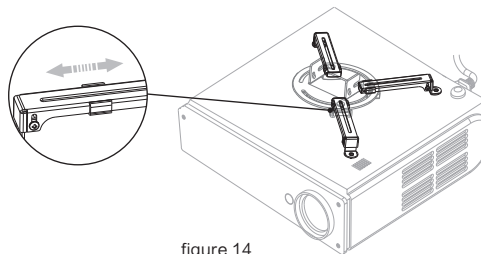

figure 14
2. If there are 3 holes, the installation arms (4-3) need to be taken apart from Installation bracket firstly. Connect 3 installation arms (4-3) to the projector, and then connect the installation arms (4-3) to the installation base (4-6). However, the installation base needs to be the center of projector. Figure 14.